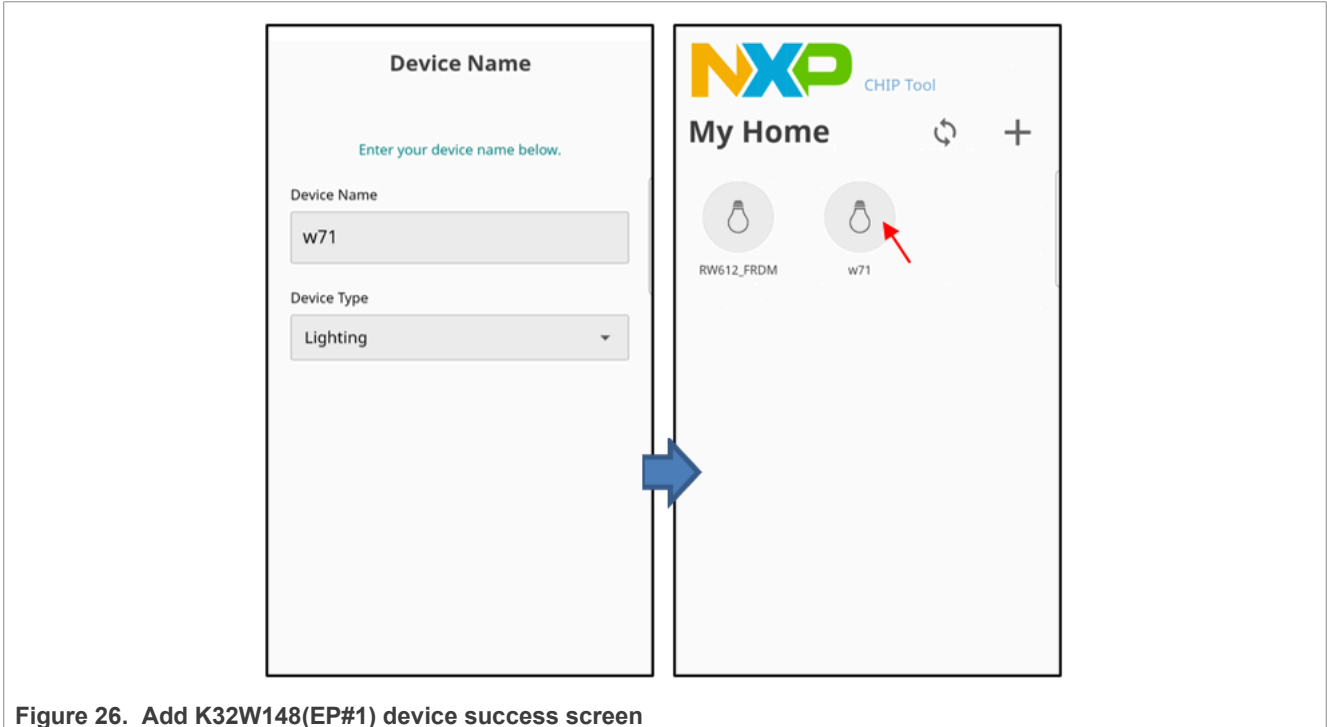

Figure 26. Add K32W148(EP#1) device success screen
5. After entering the device name, you can add the devices as shown in Figure 26.